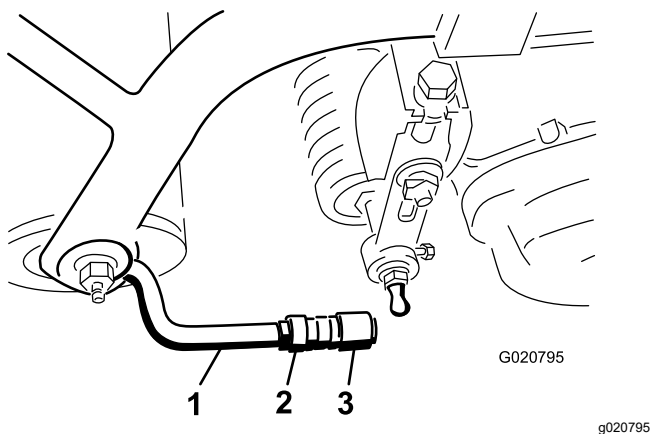

Figure 8
5. Align the sockets in the ball joints so the open side of the socket is centered toward the ball stud, and tighten the jam nuts to secure the sockets in position (Figure 8).